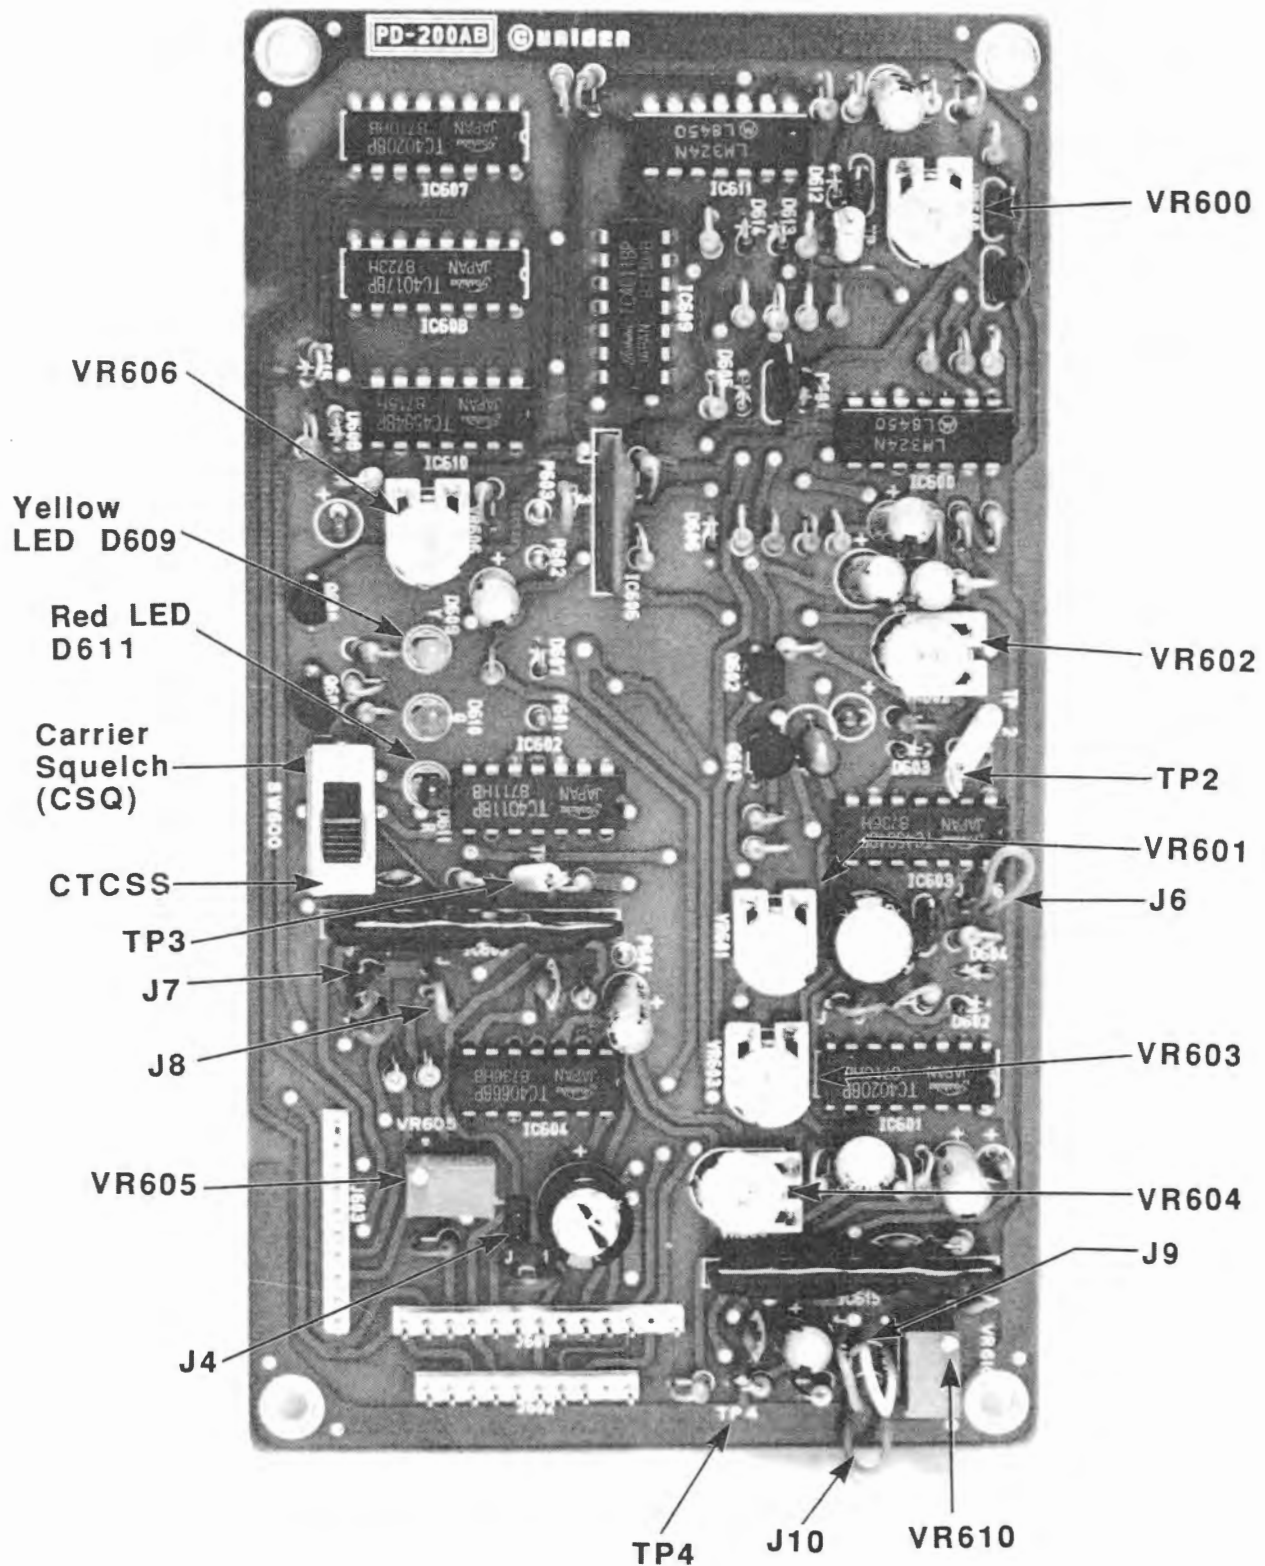

Figure 16. Conventional Control Board Alignment Points
3. Adjust VR600 (see figure 16) until the yellow LED (D609) just comes on. (Repeater squelch is open).